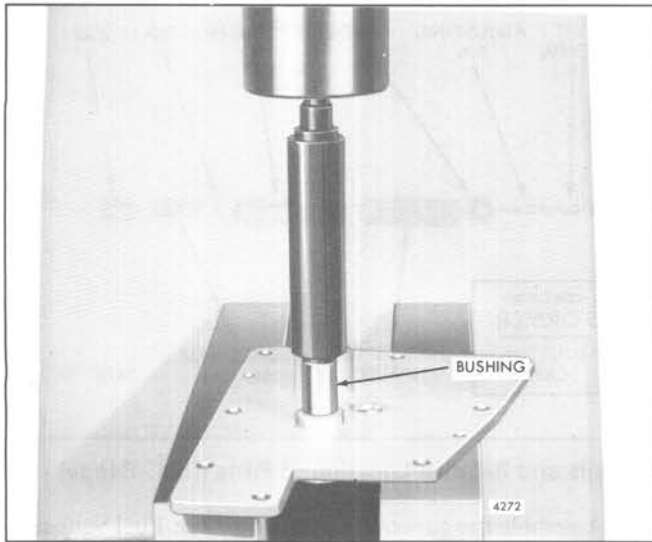

Fig. 26 – Installing Bushing in Governor Cover
- f. On a governor equipped with a stop lever shaft bushing, install the bushing in the cover (Fig. 26) in the same manner as described in Steps a and b above. Use the small pilot end of installer J 21068 to install the bushing.